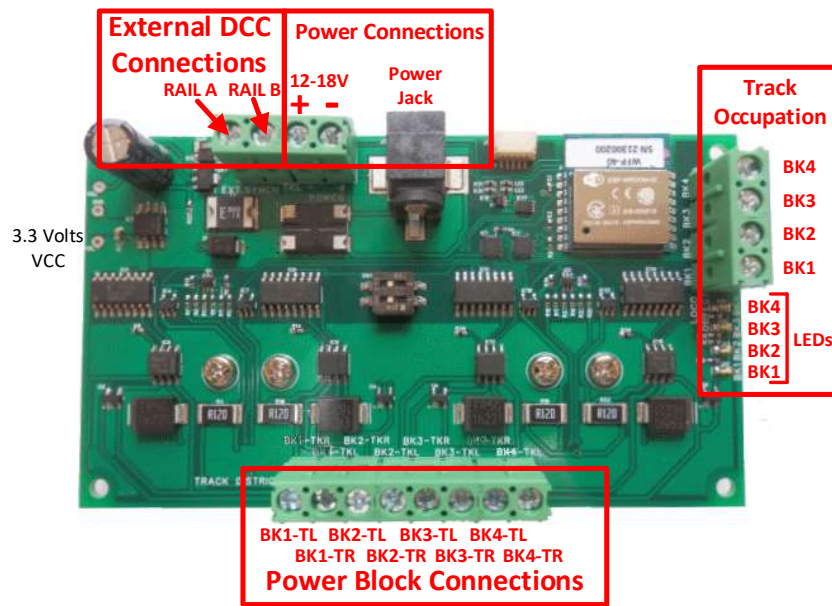

Figure 1. WFP-40 Connections
- (1) The WFM-40 module provides and controls power to up to four track blocks for N, HO, or larger scales. The blocks must be separated by gaps in both rails. Figure 1 shows the module with its connections labelled. Power may be input to the module either via the two screw terminals labelled 12-18V + and – in Figure 1 or via the Power Jack using a mains adapter. Insertion of a power jack will disconnect the + side screw terminal. The power adapter must supply between 12 and 18 Volts DC with a Barrel Plug (2.5mm I.D. x 5.5mm O.D. x 9.5mm). A recommended power adaptor is available from WifiTrax: <http://www.wifitrax.com/products/product-PA15-43-1-detail.html>